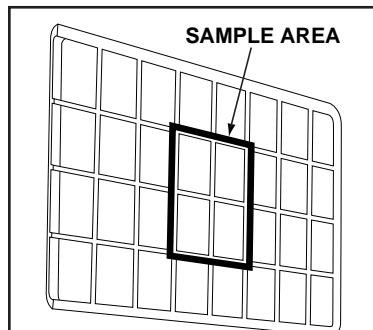

Figure 28
5. Ice cubes in any given batch will vary, so it is necessary to choose cubes from the sample area (Figure 28) for comparison when making adjustments. If further adjustments are desired, repeat steps 1 through 4.